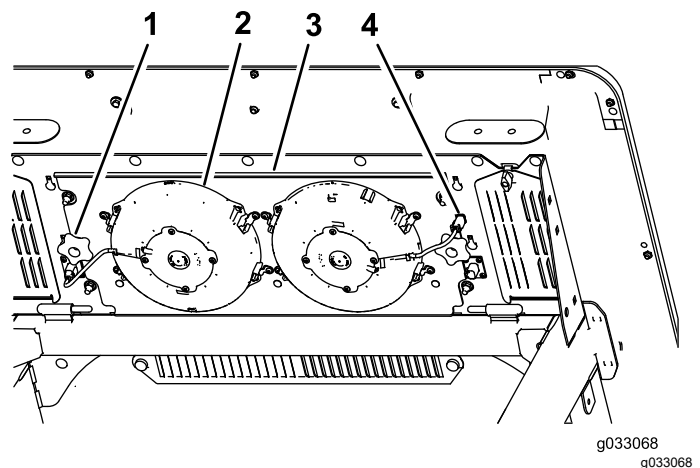

Figure 95
3. Disconnect the plug and cord for the fans from the outlet (Figure 95).
4. Remove the 2 knobs that secure the fan-panel assembly and fans to the underside of the cab top (Figure 95) and remove the assembly.